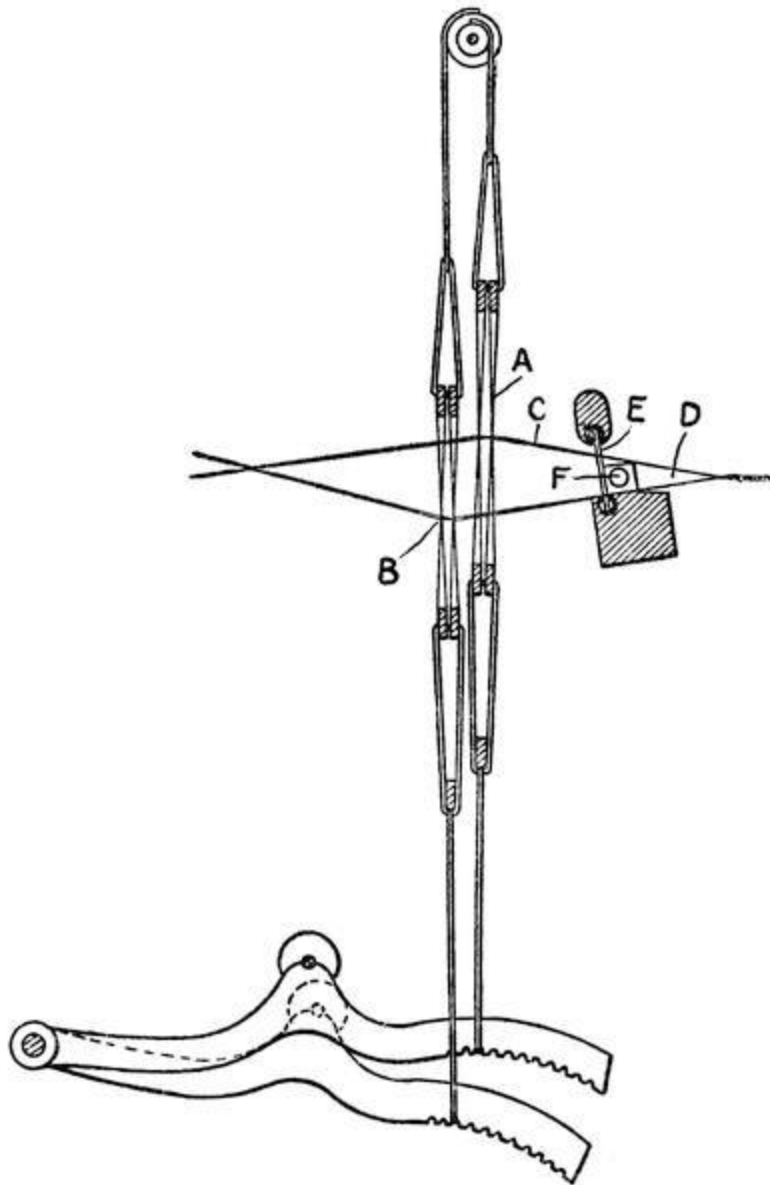

FIG. 69.—THE HEDDLES OF A LOOM
Every industry has a vocabulary of its own to furnish names for its machine parts and products peculiar unto itself, and in this respect the textile industry is by no means an exception. The threads that run lengthwise in a piece of woven cloth are known as the “weft,” “woof” or “filling.” In the loom the warp threads are threaded through loops on what are known as “heddles”; in fact, there are two “heddles,” A and B, Figure 69. Alternate warp threads (C) pass through the loops of one heddle, and the other threads through the loops on the other heddle. When one heddle is